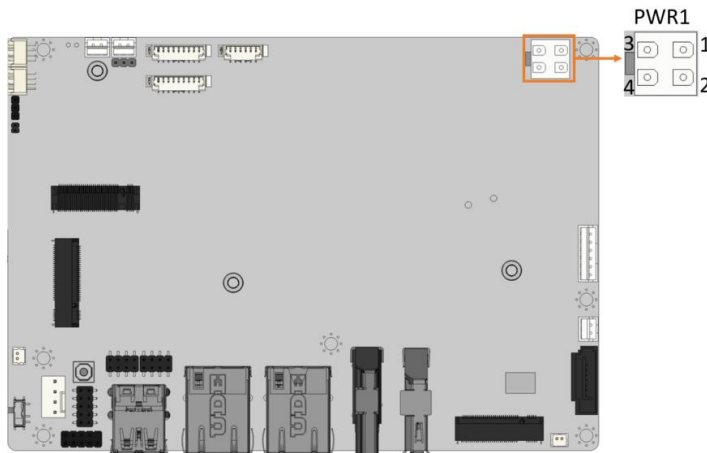

Figure 3-5: ATX 12V Power Connector Location
- CN Location:** See **Figure 3-5**